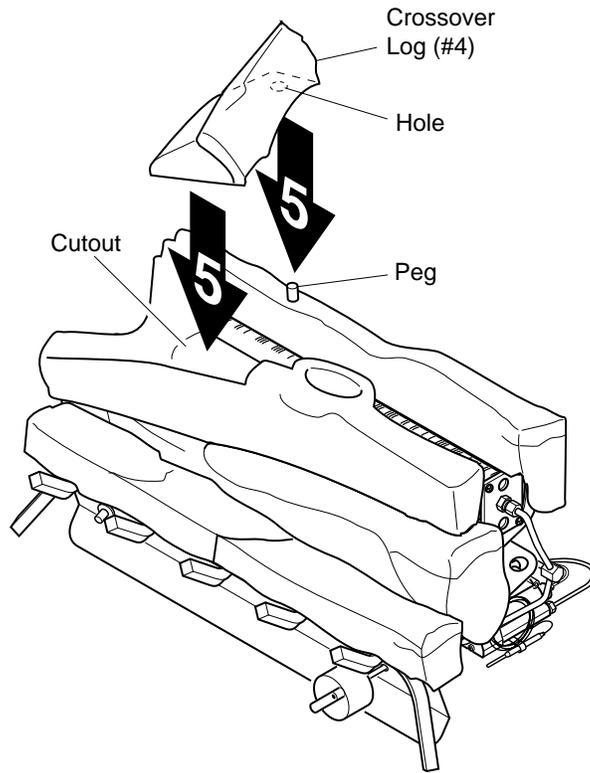

Figure 21 - Installing Crossover Log (#5)
4. Place the crossover log (#5) on the back log and the top middle log. Make sure the peg on the rear log is in the hole in the bottom of the crossover log. The crossover log should fit in the cutout of the top middle log (see Figure 21).